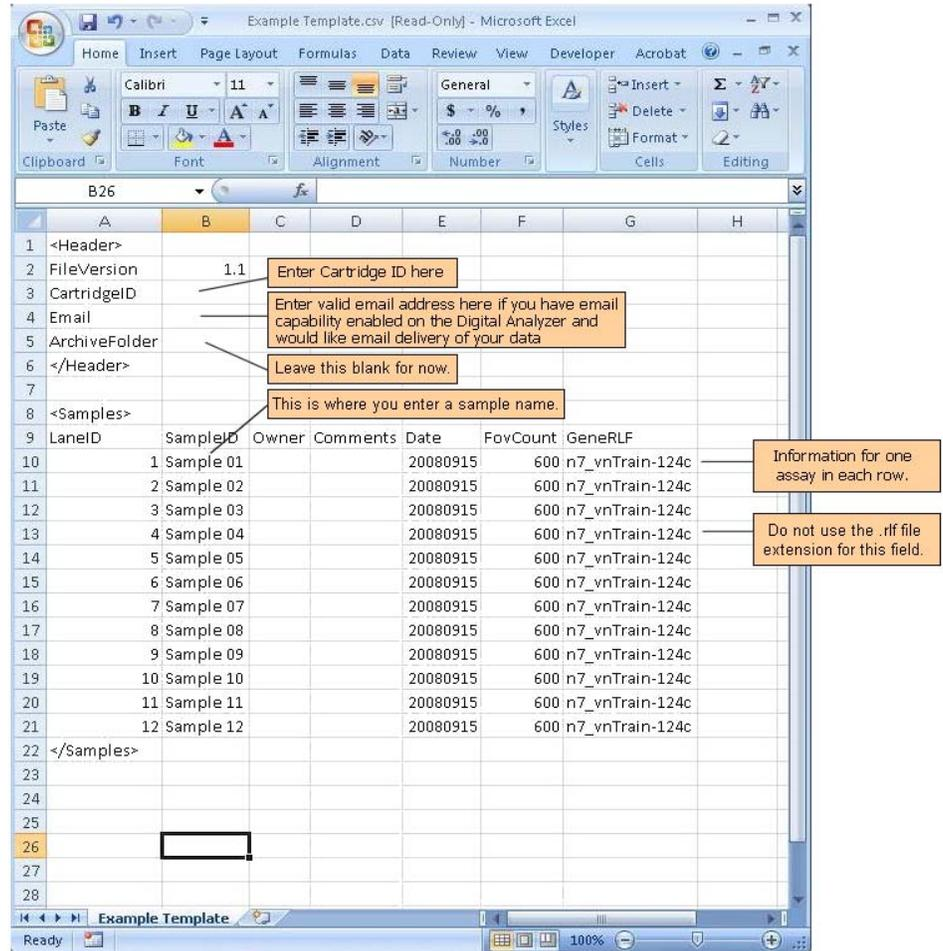

Figure 2.9 Sample CDF in Excel
4. Fill in the CDF as shown in Figure 2.9.